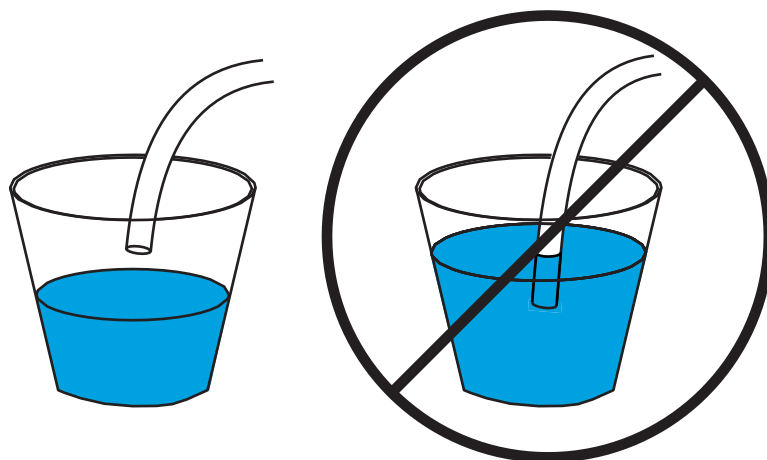

Figure 40. Drainage tube correctly hung (left) and incorrectly submersed (right)
- The open end of the tubing is not submersed in the drainage container (Figure 40).